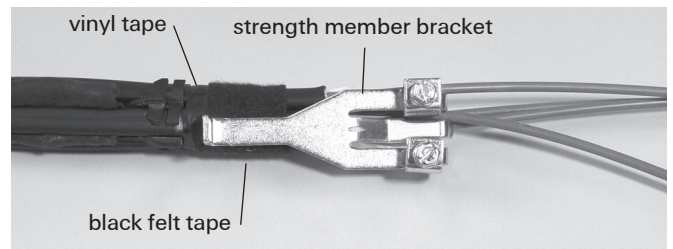

Figure 11
8. Secure the strength members to the FOSC 600 closure strength member bracket. (Figure 11)